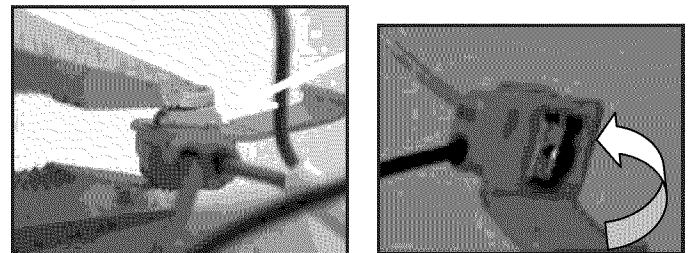

FIGURE 5
7. Press the connector blade down by using pliers. Internally, this blade will lock both wires while making the electrical connection between them. Close the flap on the supplied connector. Repeat steps 6 and 7 for the second connector. See *Figure 5*.